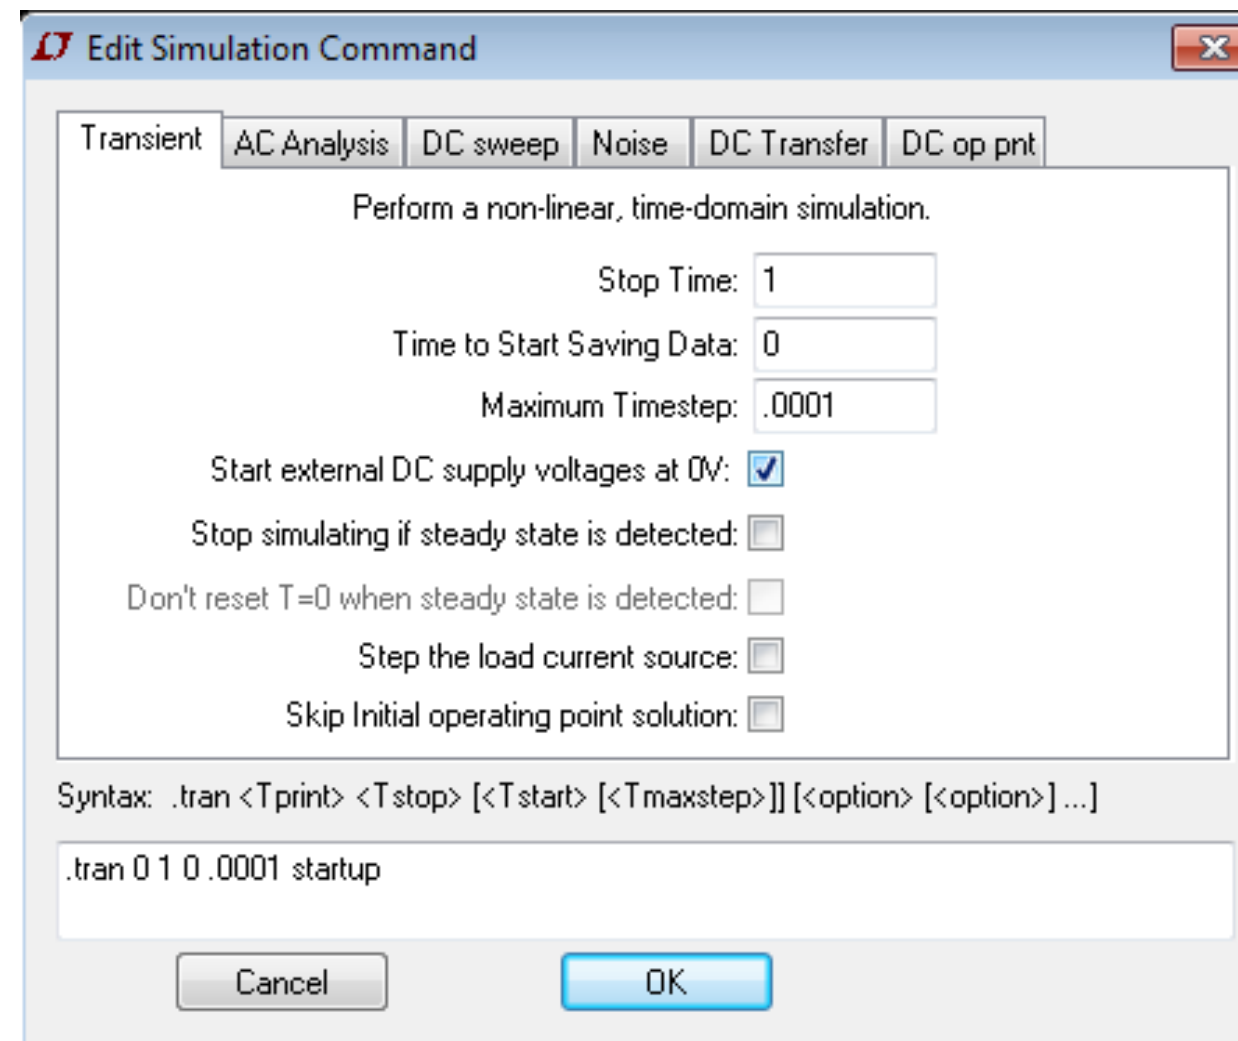

Figure 3: Simulation setup to find time constants.
- Note: to find meaningful answers you will need to select "Start external DC supply voltages at 0V" in the Edit Simulation Cmd window, as shown in Fig. 3.